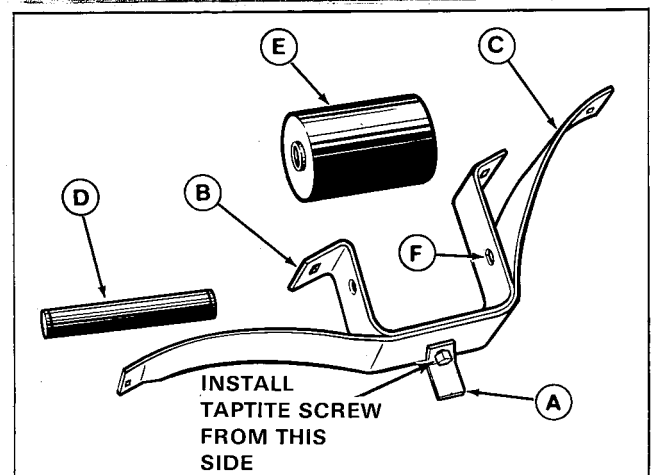

Figure 2. Baffle Assembly
5. Assemble the "L" bracket (A, figure 2) and roller bracket (B) to the baffle (C) as shown with one 1/4 inch taptite screw, lockwasher and nut supplied with kit.
6. Position the roller in the bracket (B) and slide the shaft (D) thru the bracket and roller. The shaft will fit only one way due to hole with flat side (F). Install an E-ring in each end of shaft, making sure the E-rings are fully seated in grooves.